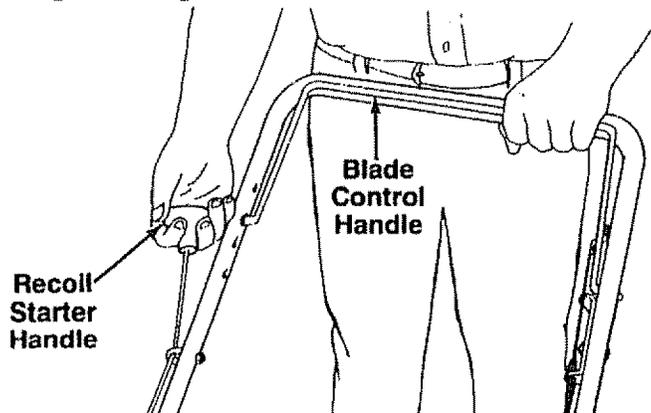

FIGURE 10.
- Hold blade control handle against upper handle. See figure 10. Pull starter handle quickly. Do not allow starter rope to snap back.